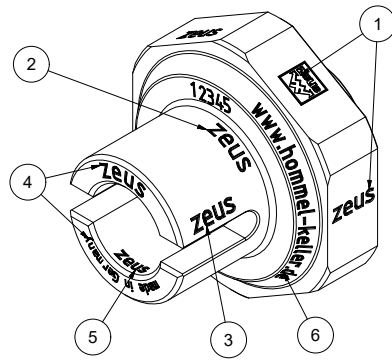

Figure 1: Area of application
Tools of all types can be labelled quickly, affordable and flexibly with this marking tool. Markings on faces (Fig. 1, ref. 4), cylindrical outer surfaces (Fig. 1, ref. 1), bevels (Fig. 1, ref. 3) and spherical surfaces (Fig. 1, ref. 2) are possible.
This tool type can be used modularly in front of and behind the rotation centre. If the labelling runs on a spherical surface or in an axial direction (cf. Fig. 1, ref. 2), the complete marking tool can be clamped rotated 90°.